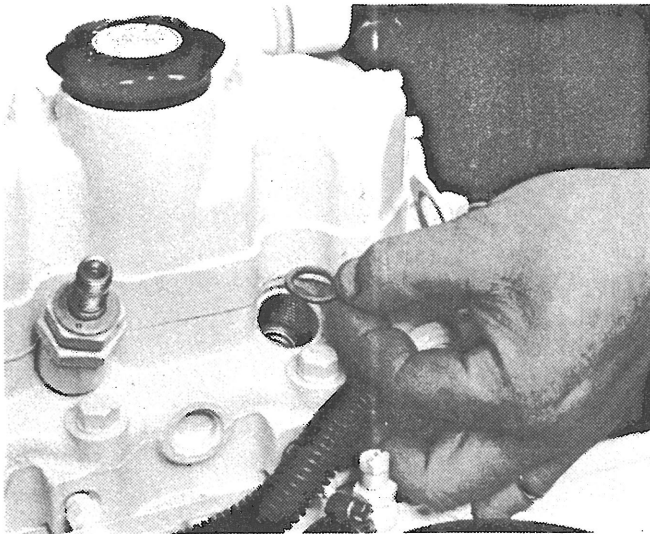

Figure 58 - Remove and replace copper sealing washer.
1. After removing injectors, discard the copper sealing washers from the injector locating bores (figure 58). If a spare set of injectors is not immediately available, cover the bores to prevent the entry of dirt.